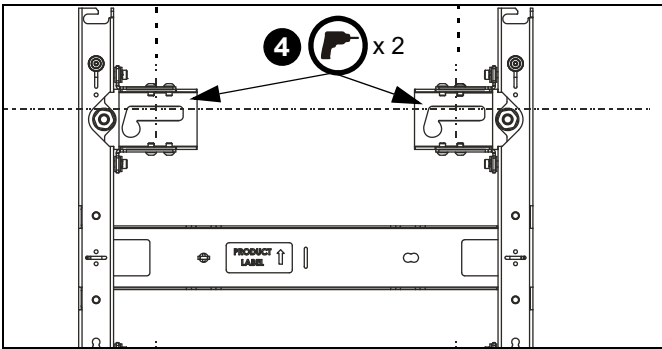

Figure 14
4. Drill pilot holes towards top and in centerline of upper mounting slots on second mount (see Table 1 for size) and follow fastener information (appropriate for wall type) located in Table 1. (See Figure 14)